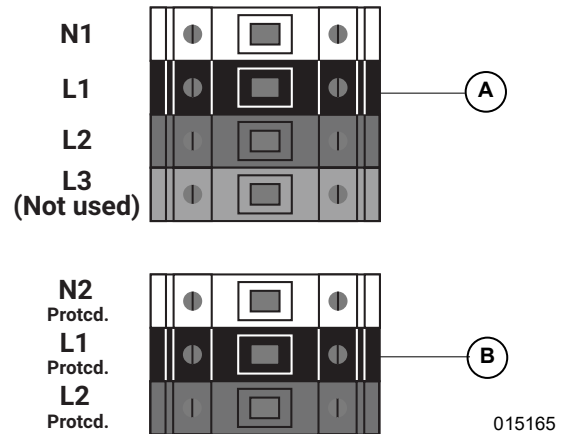

Figure 5-7. AC Wiring Terminals
See Figure 5-7. The installer is responsible for installing 40 A overcurrent protection for wiring to AC Grid Connection Terminals (A). The conductors shall be sized in accordance with NEC Article 705 for the utility power interconnection. All other conductors in the system shall be sized in accordance with NEC Article 310 and all other applicable NEC Articles.
See Figure 5-7. The PWRcell Inverter is equipped with four AC Grid Connection terminals and three Protected Loads terminals.